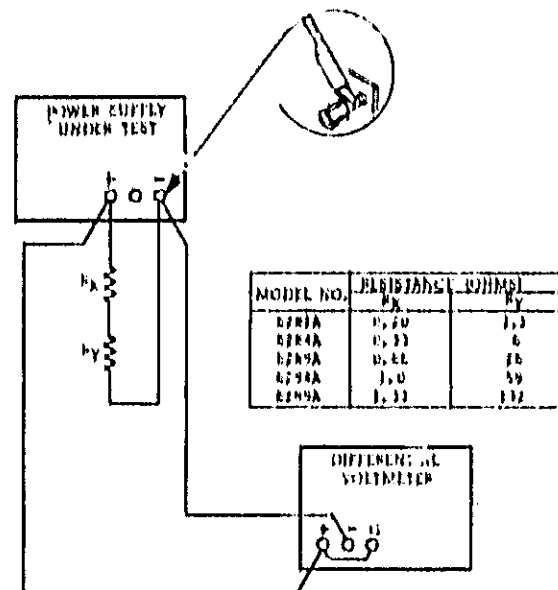

Figure 5-5. Load Regulation, Constant Voltage
a. Connect test setup as shown in Figure 5-5.
c. Connect test setup shown in Figure 5-5.